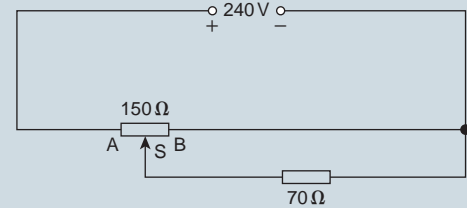

Figure 7.48
5. For the potentiometer circuit shown in Fig. 7.48, AS is 60% of AB . Calculate the voltage across the $70\ \Omega$ load.